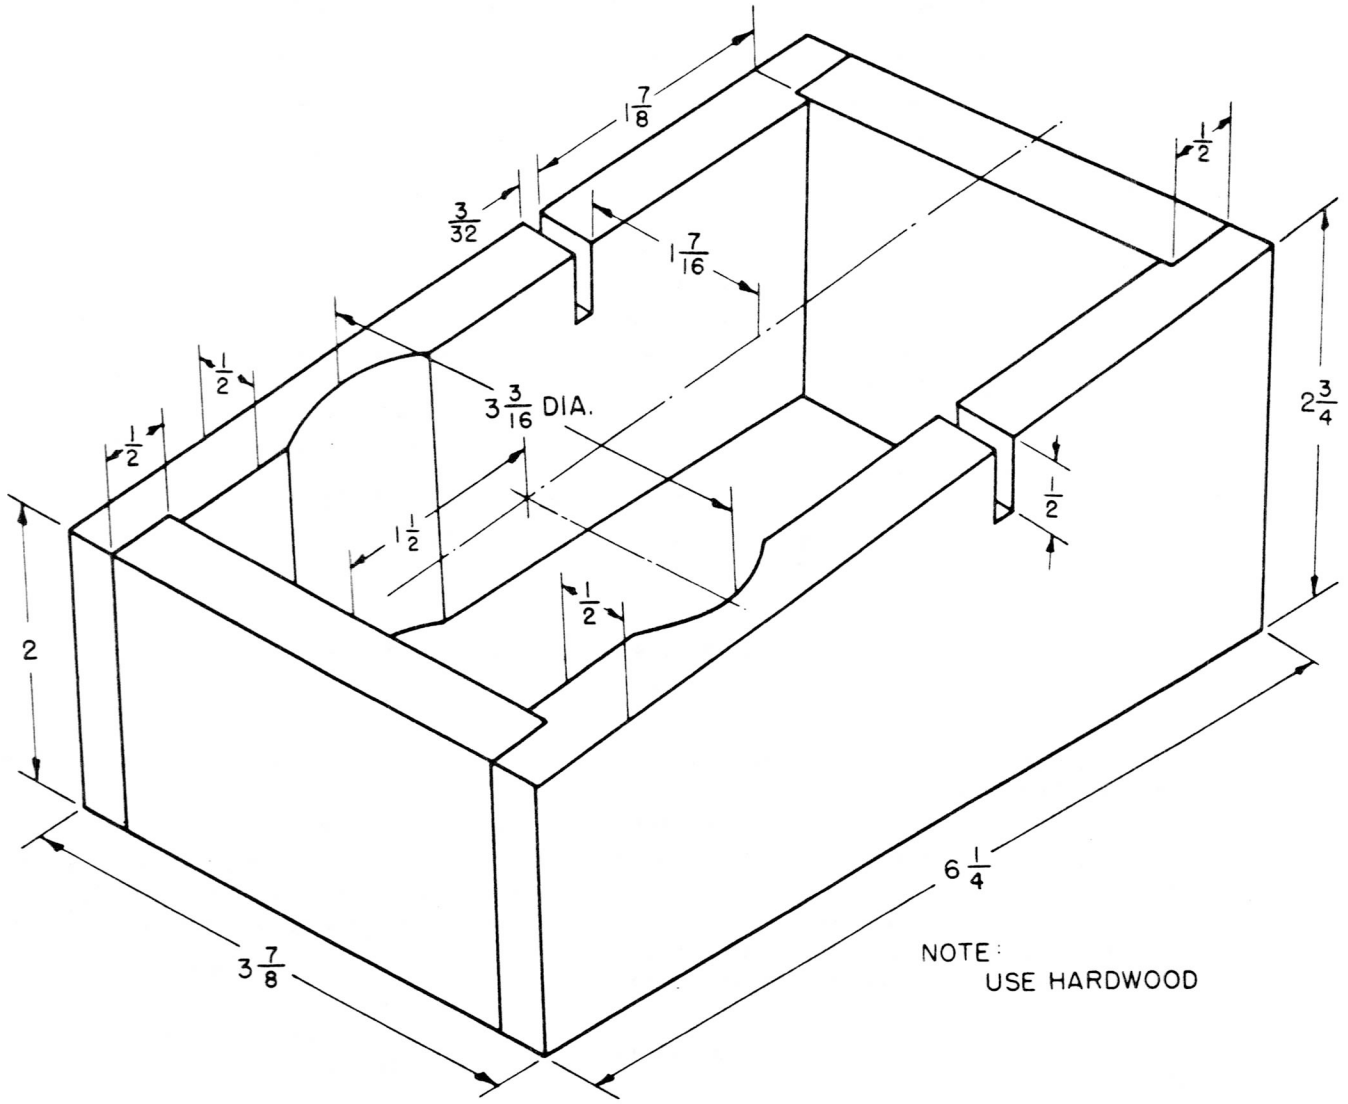

Figure 239A—Fixture T-1 for Holding Dial Change Indicator
(1) REMOVAL OF RATIO METER.
- (b) Remove complete backplate assembly by taking out four screws. With backplate removed place unit in fixture (see figure 239A) which will hold unit steady while repairs are made.